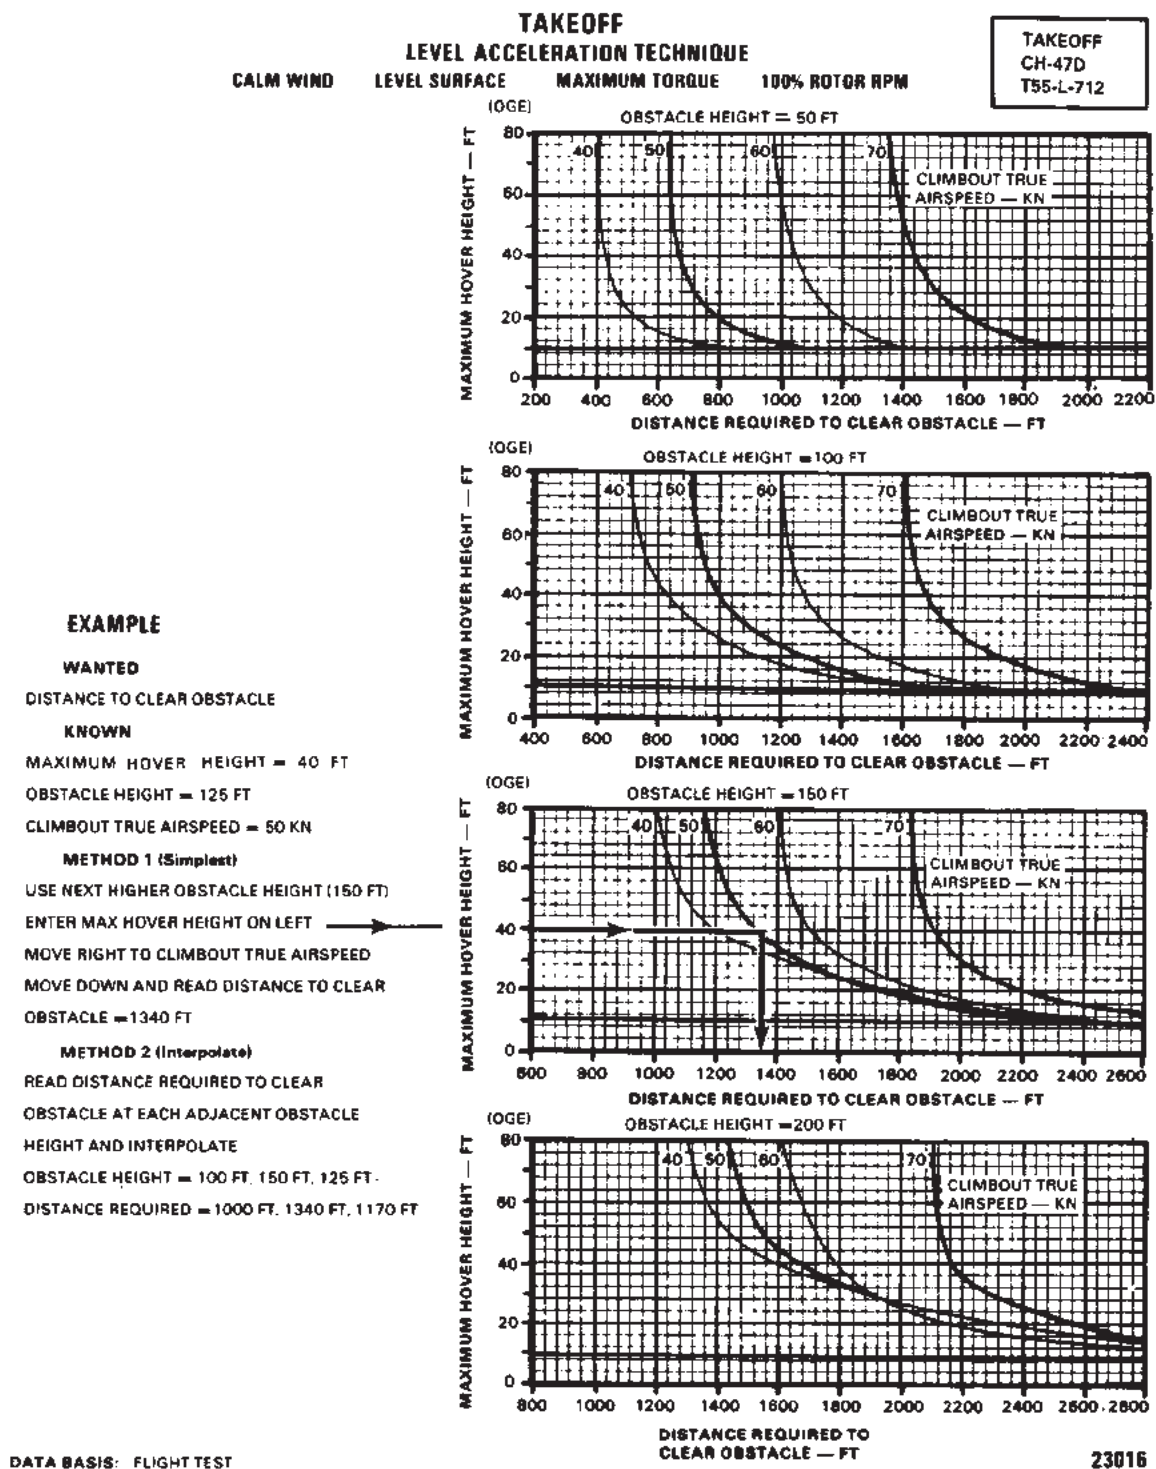

Figure 7-6-1. Takeoff Chart
b. In addition to the primary use, the hover ceiling charts (fig. 7-5-2) may be used to predict maximum hover height. This information is necessary for use of the takeoff chart found in figure 7-6-1. To determine maximum hover height, it is necessary to know PA, FAT, GW, and maximum torque available. Enter at the known pressure altitude, move right to FAT, move down to gross weight, move left to intersection with maximum torque available and read wheel height. This wheel height is the maximum hover height.
The takeoff chart, figure 7-6-1, defines distances required to clear obstacles of **50** feet, **100** feet, **150** feet, and **200** feet based upon maximum hover height capability and true airspeed. The procedure for takeoff is the level flight acceleration technique.